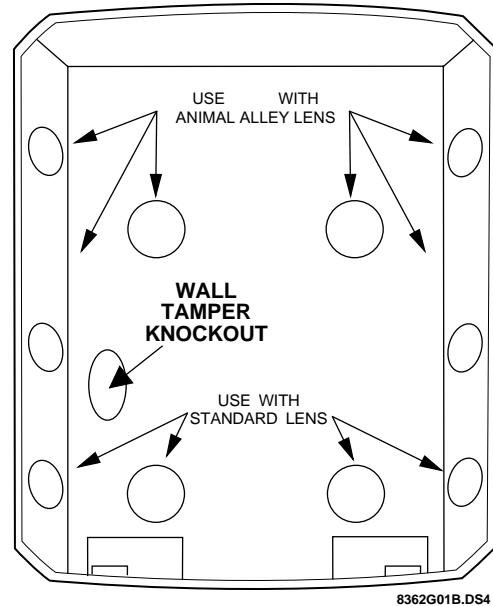

Figure 5. PIR Mounting Plate Knockouts
2. Punch out the mounting holes that best fit your application. See Figure 4 for wall mount options. See also Figure 5 to determine which knockouts to use when mounting the motion sensor. Use the lower-side holes for corner mounting, or the lower-back holes for surface mounting with the standard lens.
3. If you desire wall-tamper functionality, remove the wall-tamper knockout (see Figure 5).